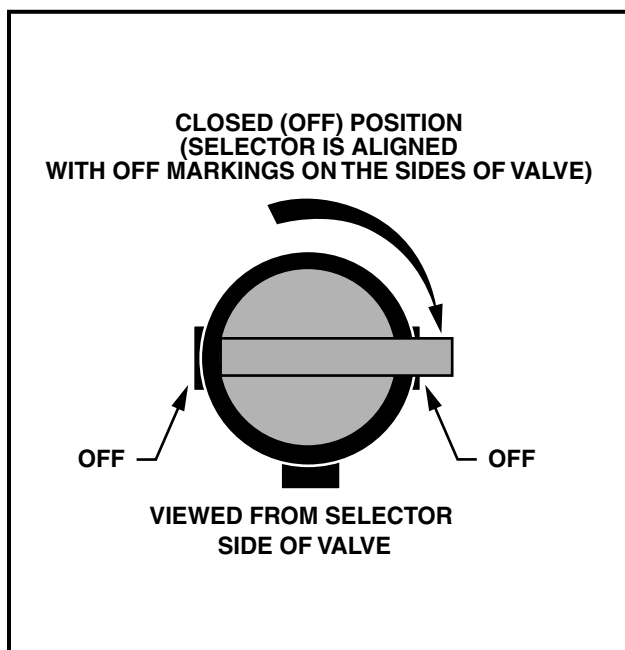

Figure 12 Fuel Shut-off Valve – Closed Position
2. Turn key switch to OFF and place the Forward/Reverse handle in the NEUTRAL position. Remove the key and turn fuel shut-off valve to closed (OFF) position when the vehicle is not in use (**Figure 12, Page 21**).
- **Turn fuel shut-off valve to closed (OFF) position (Figure 12, Page 21).**
- Turn the fuel shut-off valve to closed (**OFF**) position (**Figure 12, Page 21**).
- 3.1. Place the Forward/Reverse handle in the **NEUTRAL** position and the neutral lockout cam in the **SERVICE** position. Turn the fuel shut-off valve to the closed (**OFF**) position (**Figure 12, Page 21**) and run the engine until fuel remaining in the carburetor and fuel lines is depleted and the engine stalls. Return the neutral lockout cam to the **OPERATE** position.
- Turn fuel shut-off valve to closed (OFF) position (**Figure 12, Page 21**).